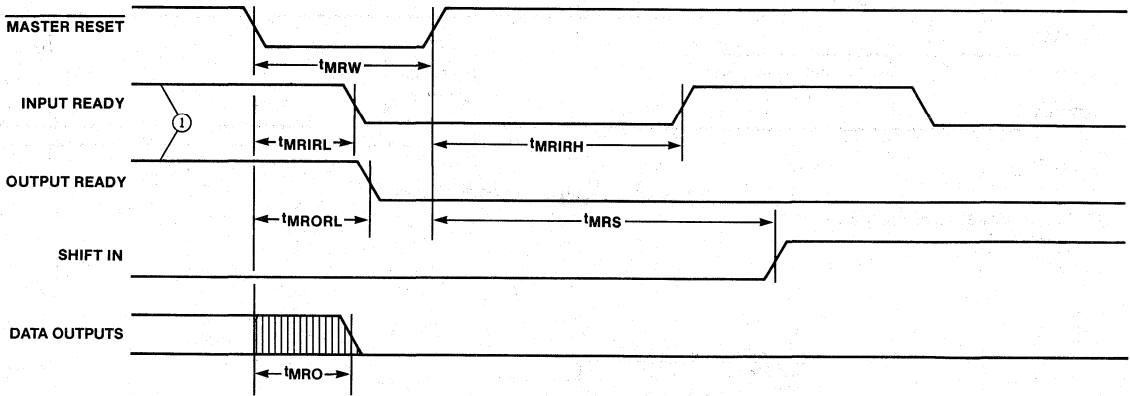

Figure 10. Master Reset Timing
After power up the Master Reset is pulsed low (Figure 10) to prepare the FIFO to accept data in the first location. Master Reset must be applied prior to use to ensure proper operation. When Input Ready (IR) is HIGH the first location is ready to accept data from the  $D_x$  inputs. Data then present at the data inputs is entered into the first location when the Shift-In (SI) is brought HIGH. A SI HIGH signal causes the IR to go LOW. Once data is entered into the first cell, the transfer of data in any full cell to the adjacent (downstream) empty cell is automatically activated by an on-chip control. Thus data will stack up at the end of the device (while empty locations will "bubble" to the front when data is shifted out).  $t_{PT}$  defines the time required for the first data to travel from input to the output of a previously empty device. When SI is brought LOW and the FIFO is not full, IR will go HIGH, indicating more room is available. If the memory is full, IR will remain LOW.